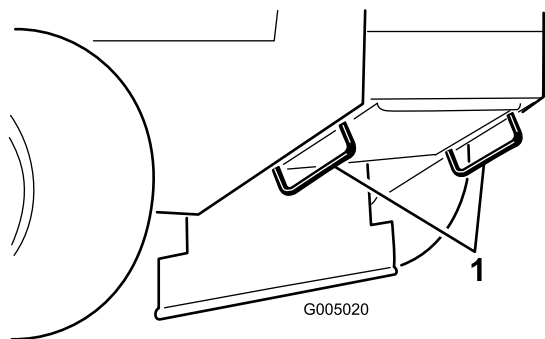

Figure 19
5. Use the tie-down loops on the machine to securely fasten the machine to the towing vehicle with straps, chains, cable, or ropes (Figure 19).